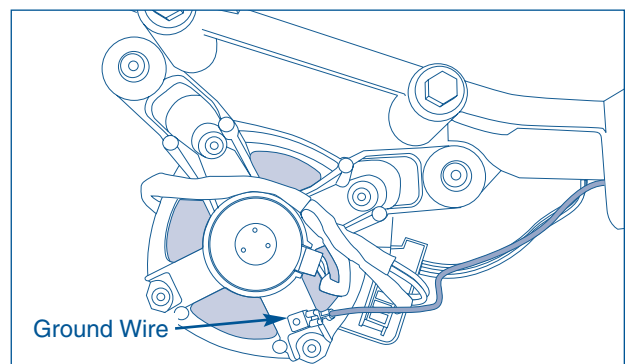

Figure 4-51.
3. Disconnect the electrical plug and the ground wire from the drive motor. (See Figure 4-51)